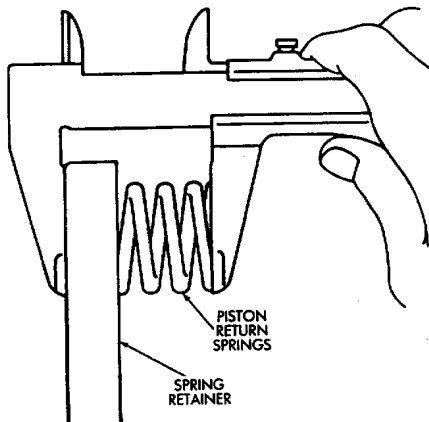
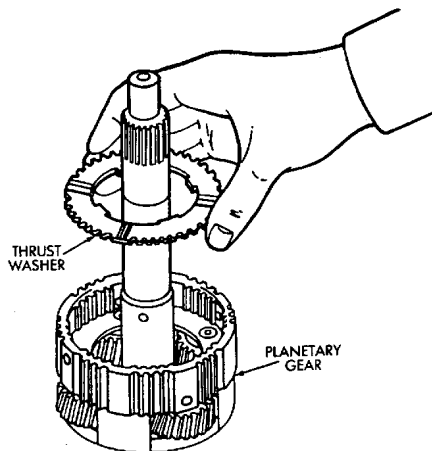

Fig. 16 Checking Piston Return Spring Length
Fig. 15 Removing Planetary Thrust Washer
(16) Remove thrust washer (Fig. 15).
(17) Measure clutch disc thickness. Minimum allowable thickness is 1.84 mm (.0724 in).
(18) Measure free length of piston return springs with springs in retainer (Fig. 16). Length should be 16.8 mm (.661 in).